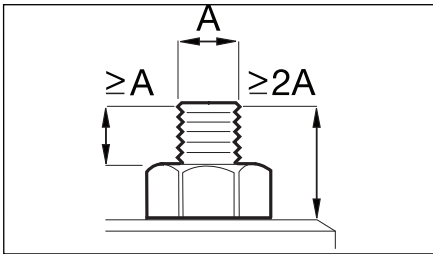

FIGURE 5, STUD EXTENSION REQUIREMENTS
7. Check that each stud is correctly installed and that there is sufficient stud extension to engage the tensioner. The exposed portion of the stud (above the nut) should be at least the same dimension as the stud diameter. The total protruding length of the stud (from joint surface to end of stud) must be at least twice the length of the exposed portion of the stud. See Figure 5.